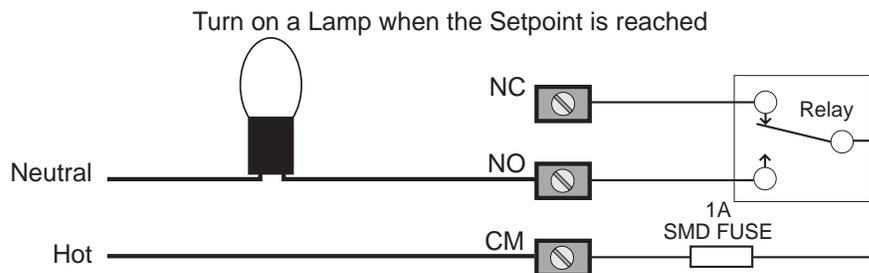

Figure 1
Some examples of uses for the setpoint relays are: Using the normally open position of a set point as a switch to turn on a light or siren when the set point is reached, using the normally closed position to cut out a motor when a set point is reached, or using the set point relays to change speeds on a motor. See figure 1 for an example hook up to a lamp. The normally open (NO) contact of a relay is used to turn devices on when a set point is reached, while the normally closed (NC) contact is used to turn a device off when the set point is reached. The common (COM) contact connects the power to the relay.